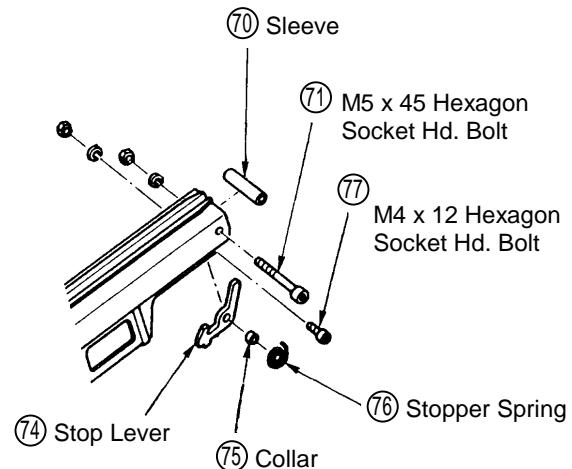

Fig. 17
(a) Disassembly: (see Fig. 17)
- After removing the M5 x 45 Hexagon Socket Hd. Bolt ⑦1 and M4 x 15 Hexagon Socket Hd. Bolt ⑦7, the parts illustrated in Fig. 17 can be taken out.